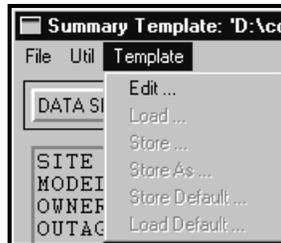
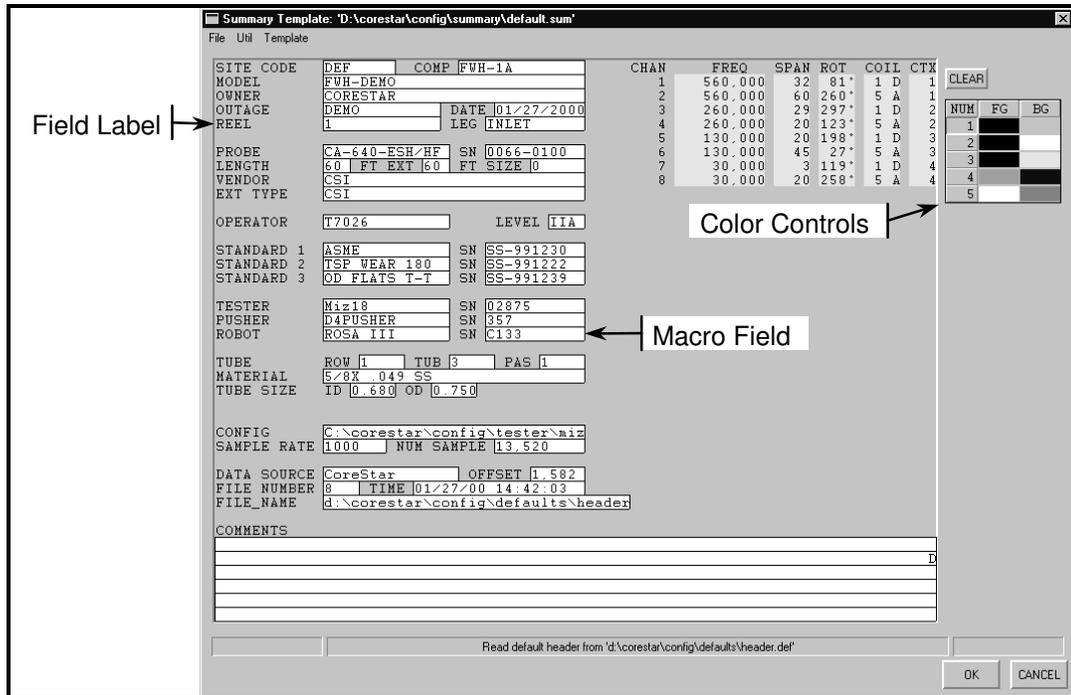

Figure 3-87. Summary Dialog - Template Menu
Figure 3-88. Summary Template Dialog
As shown in Figure 3-87, the **Template** menu on the **Summary** dialog contains only one (1) *active* menu choice named **Edit ...**, which is discussed below. The other choices on the **Template...** menu are grayed-out indicating that they are *inactive*. These items become *active* once the **Template** is opened for editing.
- SUMMARY > Template > Edit ...:** Selecting **Edit ...** from the **Template** menu on the **Summary** dialog shown in Figure 3-87 opens the **Template** dialog shown in Figure 3-88. This dialog is used to edit the design of the **Summary** as desired by the user. **Field Labels** may be edited by simply typing over the existing label. For example, to change the **Field Label** named *REEL* shown in Figure 3-88 to *CAL GROUP*, simply position the cursor at the beginning of the existing label named *REEL* and type over it with the label named *CAL GROUP*. **Field Labels** are plain text and are shown as black text on a gray background in Figure 3-88.
The **Color Controls** shown in Figure 3-88 may be used to change background (**BG**) and foreground (**FG**) colors as desired. There are five (5) preset color schemes; however, any color within any color scheme may be changed by right-clicking the desired color box within the **Color Controls**, and selecting the new color. These five (5) color schemes are assigned to certain areas of the **Summary Template** as described below:
- NUM 1:** Controls the color assignments for the general dialog. In Figure 3-88, clicking on the general gray area within the dialog causes the **NUM 1** button beside the first color scheme to appear depressed as shown.
- NUM 2:** Controls the color assignments for all *macro* fields. In Figure 3-88, clicking in any *macro* field causes the **NUM 2** button beside the second color scheme to appear depressed.
- **NUM 3:** Controls the color assignments of the configuration settings in the upper right area of the dialog. In Figure 3-88, clicking in the configuration settings area causes the **NUM 3** button beside the third color scheme to appear depressed.